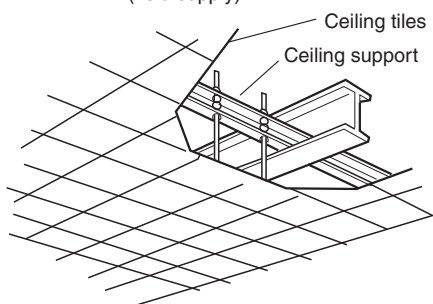

Fig. 3-60
- Use existing ceiling supports or construct a suitable support as shown in the diagram. (Fig. 3-60)